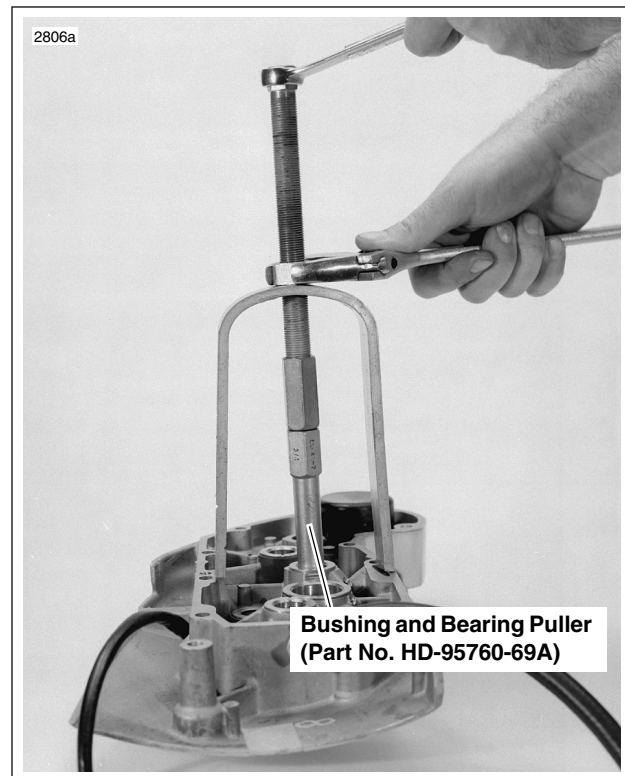

Figure 3-61. Removing Bushing
2. See Figure 3-61. Use a BUSHING AND BEARING PULLER (Part No. HD-95760-69A) to remove bushings from gearcase cover and crankcase.